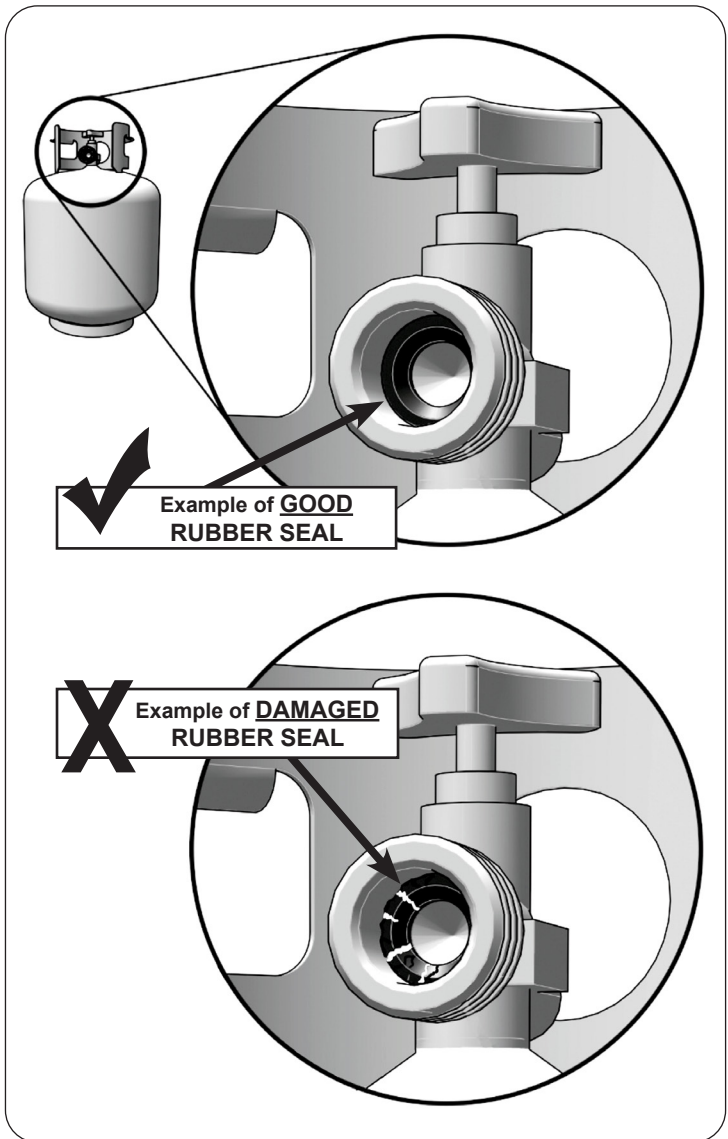

Fig. 13-1 Inspect rubber seal
- D. CGA 791 connections on LP gas cylinders:** The cylinder face elastomeric face seal element (rubber seal) on these devices could, over time, show marked and visible damage or deterioration that might cause a leak even with the connection tightened. A visual inspection for the seal must be carried out every time a LP gas cylinder is replaced or refilled. Any LP gas cylinder showing signs of damage or deterioration as illustrated in Fig. 13-1, including visible cracks and pitting, must be replaced.